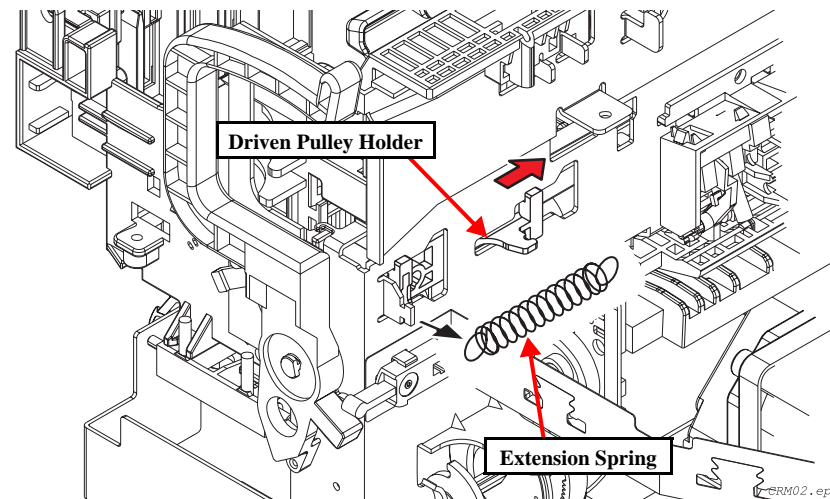

Figure 4-13. CR Motor Removal 1
2. On the rear side of the printer, remove Driven Pulley Holder Extension Spring. (See Figure 4-13.)